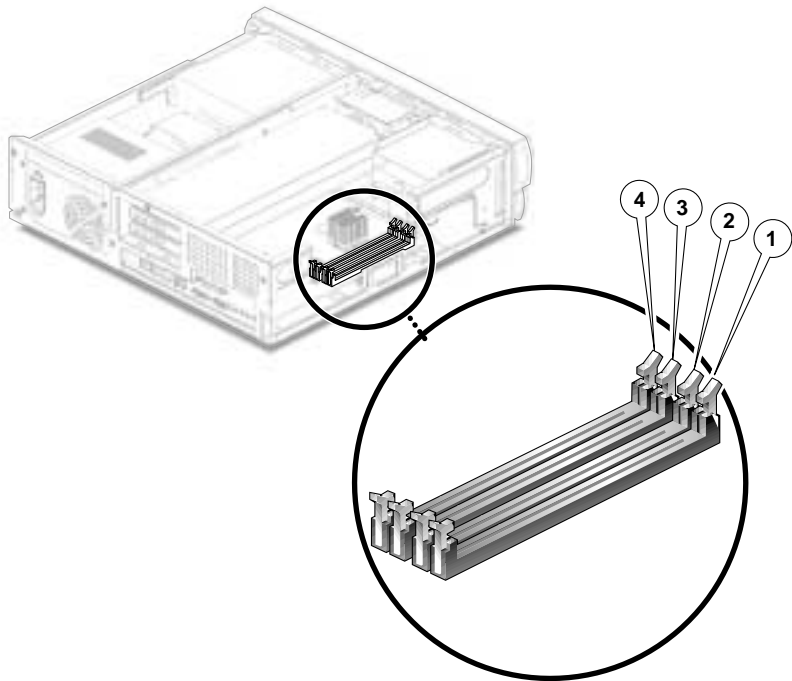

FIGURE 4 DIMM Installation Order
Note – When installing additional DIMMs, first fill slot 1 (the connector closest to the motherboard edge), then fill towards the CPU (FIGURE 4).
- 3. Verify that the DIMMS are installed in the correct order. See FIGURE 4.**